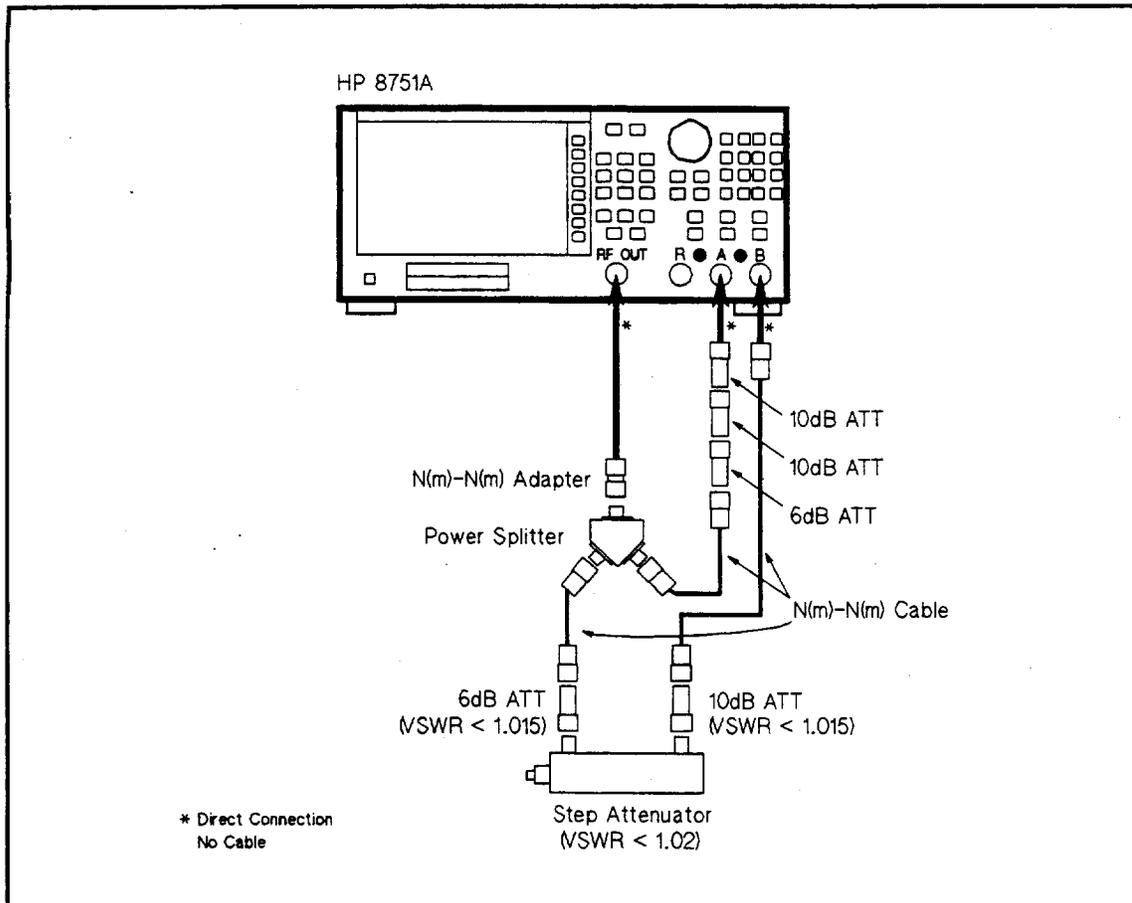

Figure 2-25. Magnitude Ratio/Phase Dynamic Accuracy Test Setup 5
- a. Connect the test equipment as shown in Figure 2-25.